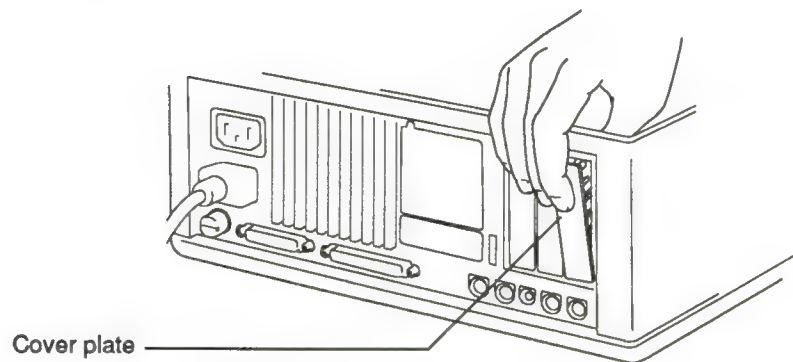

Figure 24, Removing the cover plate
- b. Push the plate out with your thumb, as shown in Figure 24, and set the cover aside. (Keep it for future use.)